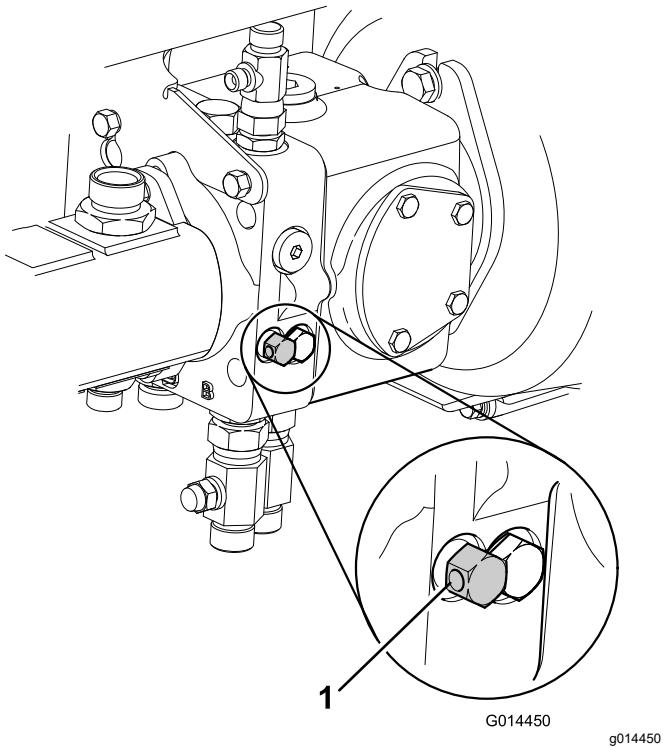

Figure 38
7. Decommission the hydraulic service braking system by turning the bypass valve, located under the transmission pump, counterclockwise, a maximum of 3 turns (Figure 38).